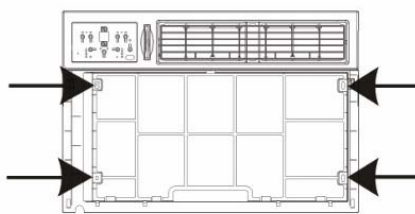

Fig.2
2. Lift the front grill upwards to remove it and place it to the side. (Figure 2)
3. Remove the four front screws. These will be needed to re-install the front panel. (Figure 2)